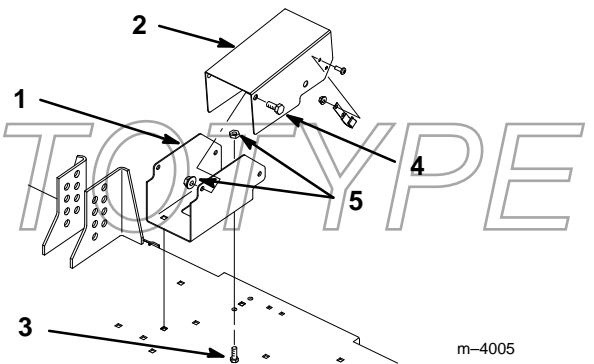

Figure 6
4. Secure the cover support to the mower with (2) 5/16-18 x 3/4" (19 mm) bolts and (2) 5/16-18 flange locknuts (Fig. 6).
- Position the chute bumper against the left inside of the cover, with the end formed outward as shown (Fig. 6 and 7).
- Secure the chute bumper to the cover with (2) 1/4-20 x 3/4" bolts and (2) 1/4-20 flange locknuts (Fig. 6 and 7).
- Install the PTO cover onto the cover support with (2) 5/16-18 x 27/64" (11 mm) shoulder bolts and (2) 5/16-18 flange locknuts (Fig. 6).